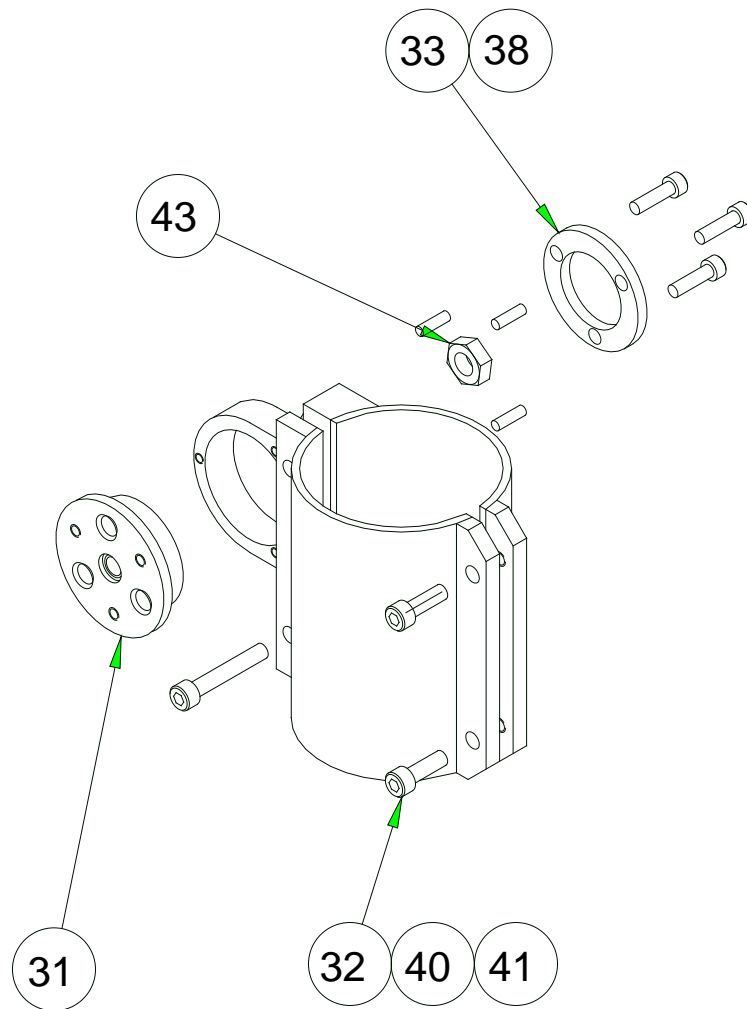

Figure 10-2 Welding Torch Mount
4. Install the welding torch in the torch mount (see Figure 10-2, Item #32) and adjust radially so the torch tip is located under the T-axis of the robot.